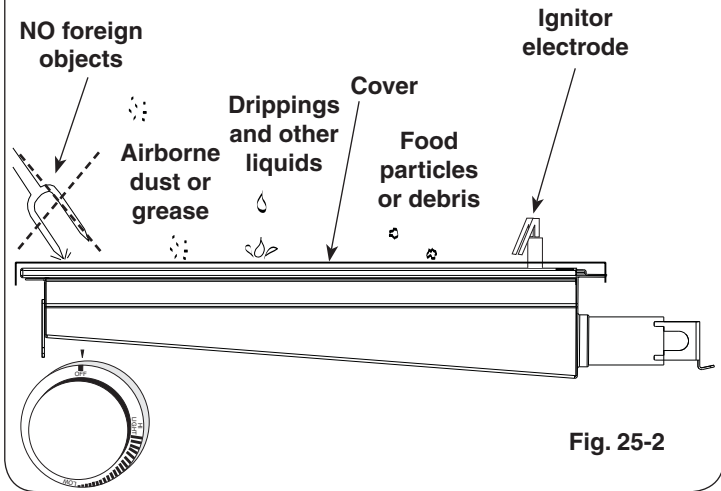

Fig. 25-2
- When not in use, **always** cover the infrared burner with the stainless-steel cover. This protects the burner from drippings (from other cooking), airborne particles, and foreign objects (Fig. 25-2).
- Do not strike or scratch the burner ceramic as it may chip, crack, or break (Fig. 25-2).